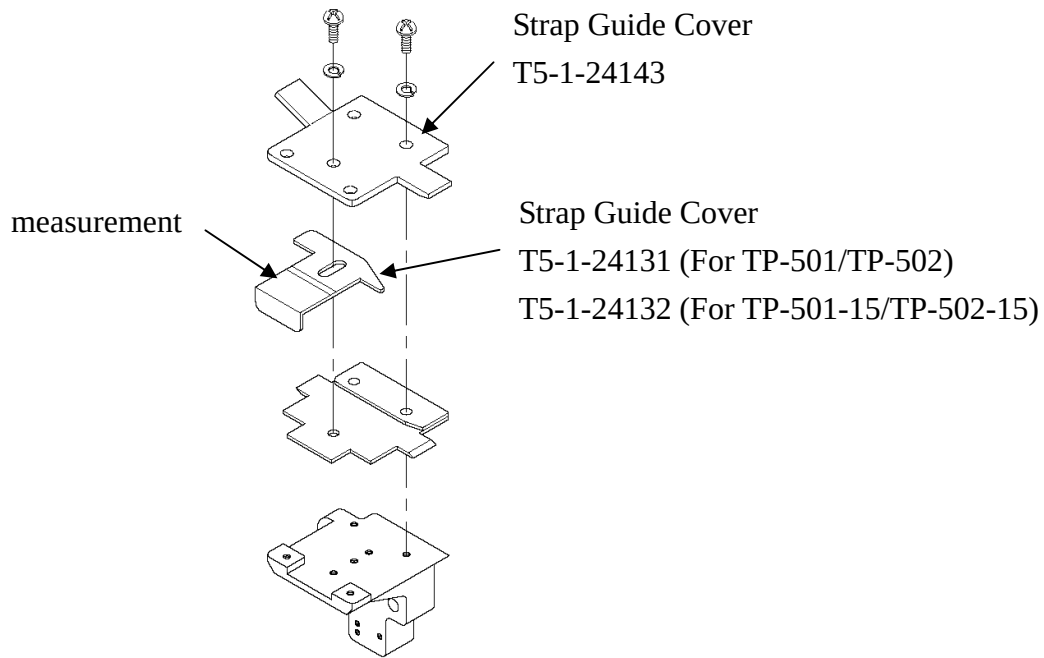

Fig.6.
3. Loosen the 5 screws outside the Strap Guide B (T5-1-24131 / T5-1-24132) and adjust its position according to the scale indicated. (refer to fig. 6)